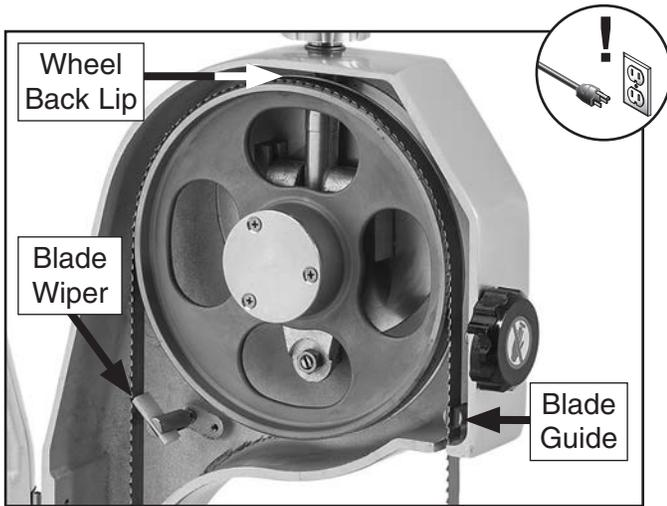

Figure 12. Top wheel blade guide and wiper.
5. Install replacement blade over upper and lower wheels until it is flush against wheel back lip (see **Figures 12 & 13** on **Page 17**). Hold in place for now.
9. Verify blade is centered in blade guide and rests against blade wipers, as shown in **Figures 12 & 13**.